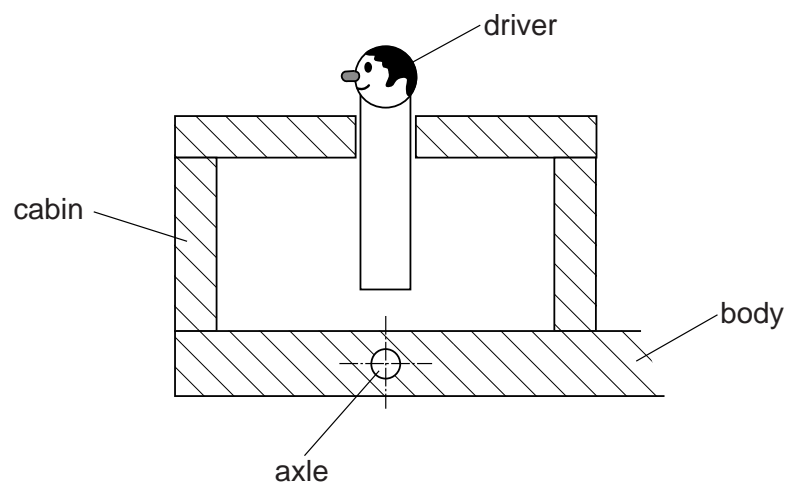

Fig. 2
(b) Fig. 2 shows the basic design of the toy. As it is pulled and pushed along, the driver moves up and down.
- (i) On Fig. 2 draw a mechanism that will make the driver move up and down.